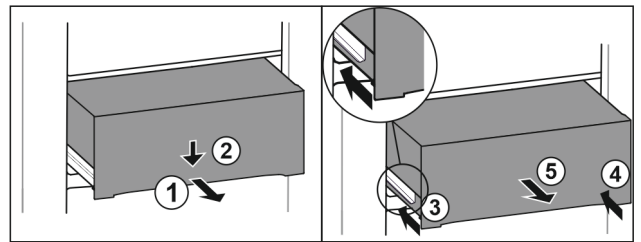

Fig. 63
- Pull out drawer half-way. Fig. 63 (1)
- Push the drawer down at the front. Fig. 63 (2)
- Push the left rail in by about 2 cm. Fig. 63 (3)
- Push the right rail in by about 2 cm. Fig. 63 (4)
- Remove drawer to the front. Fig. 63 (5)